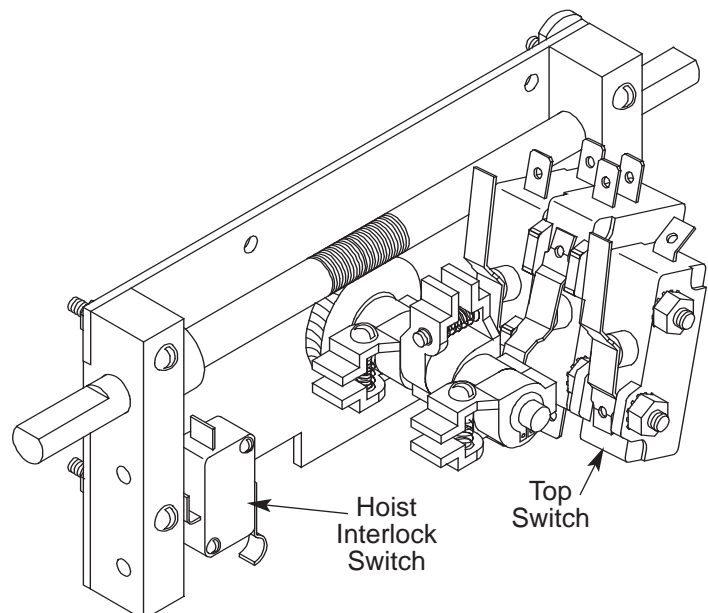

FIGURE 16
- To insure consistent limit switch action, the gap between cam jaws should not exceed 3/16". See Figure 16.
## STEP 4 (See Figure 16)